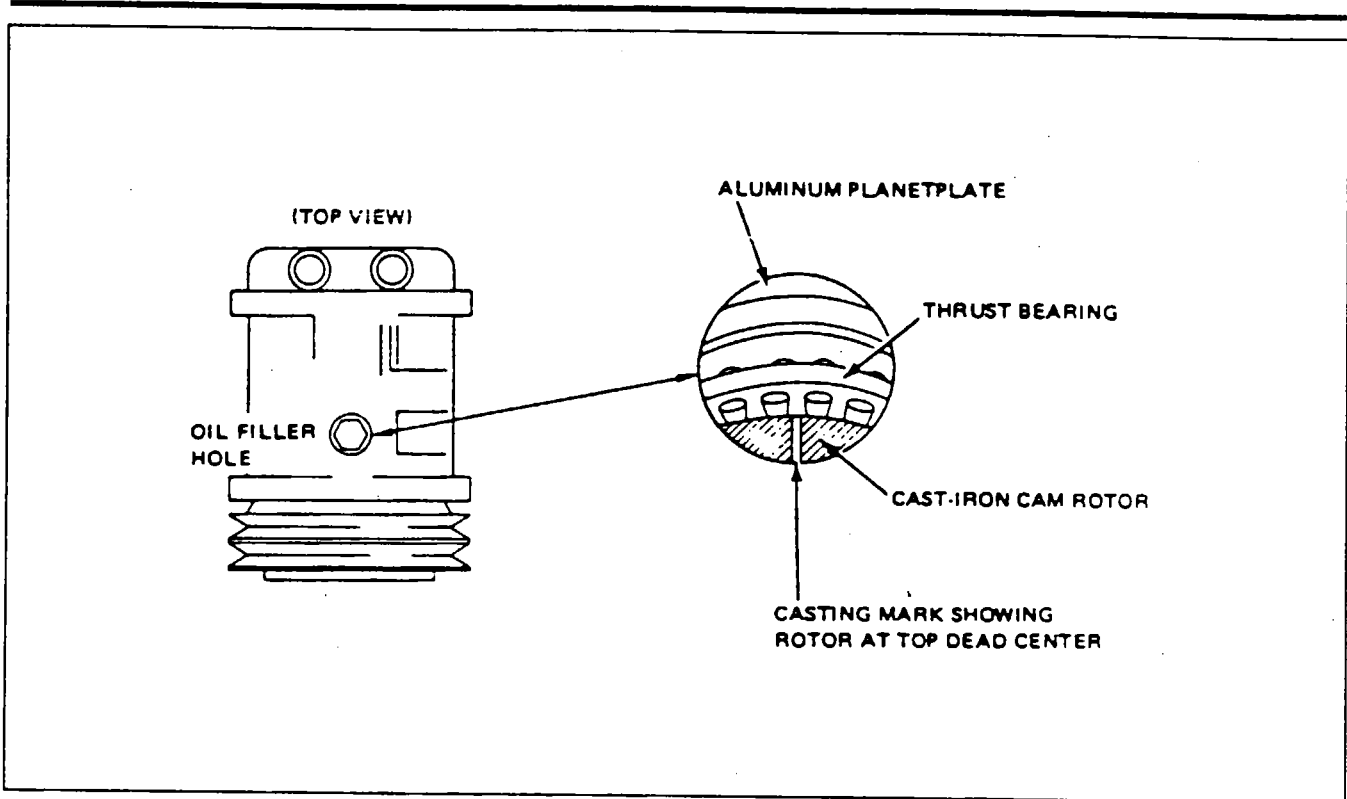

Figure 21-27. Top Dead Center Casting Mark (Sankyo Compressor)
6. Position the rotor to top dead center (refer to Figure 21-27) by rotating the clutch front plate until the casting mark is visible in the center of the hole.